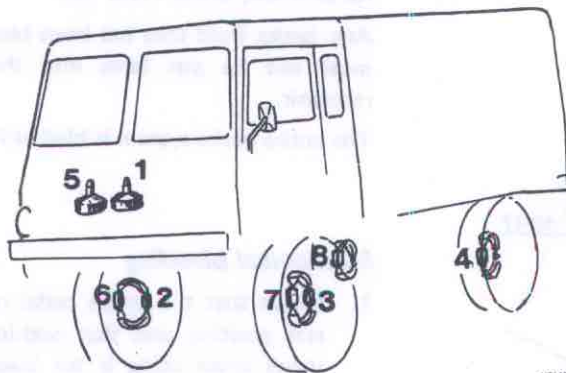

Fig. 52-39. Bleeding sequence
4. Bleeding should be done in the order shown in Fig. 52-39 and as follows:
4. Fit the plastic hose on the upper servo unit nipple and allow the other end of the hose to hang down in a collecting vessel. Open the bleeder nipple with a 7/16" ring spanner but a maximum half turn. Pump several times with the brake pedal. Close the nipple when brake fluid free from air bubbles flows out. Continue the bleeding with tool 6126 at wheel cylinders 2, 3 and 4, see Fig. 52-39.
5. Transfer the bleeder apparatus to the left reservoir and repeat the bleeding as above through nipples 5, 6, 7 and 8, see Fig. 52-39.